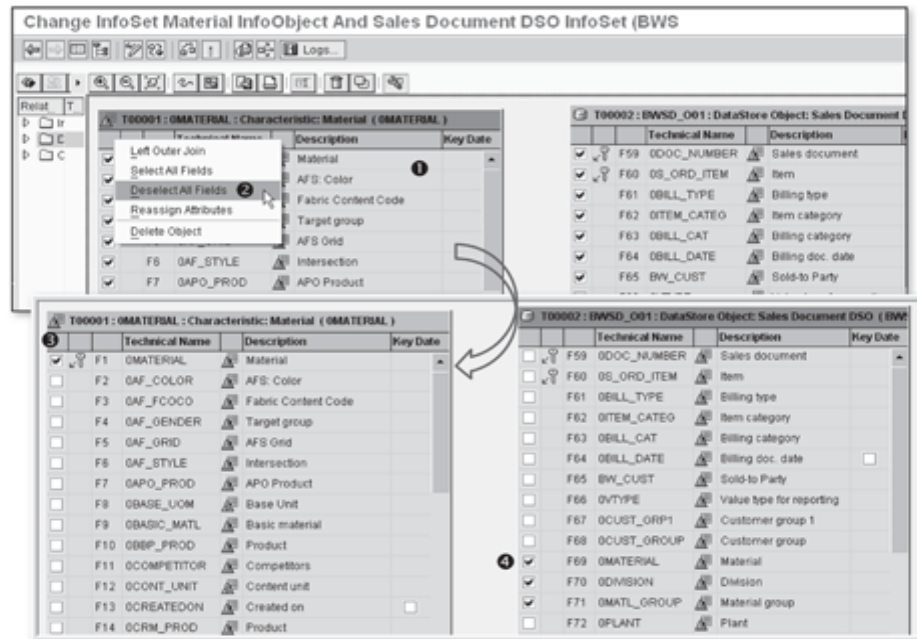

Figure 6.22 Selecting Required Fields
The second way is to deselect all of the checkboxes using one single click and include only those that are required. First, open the context menu by right-clicking anywhere on the source object for which you want to deselect all of the fields. For example, we want to deselect all of the fields for the source object OMATERIAL. Start the context menu by right-clicking somewhere near the spot shown in ❶ of Figure 6.22, and then select Deselect All Fields (❷). You can perform similar steps on the source object BWSD_001 and deselect all of the fields of DSO BWSD_001.